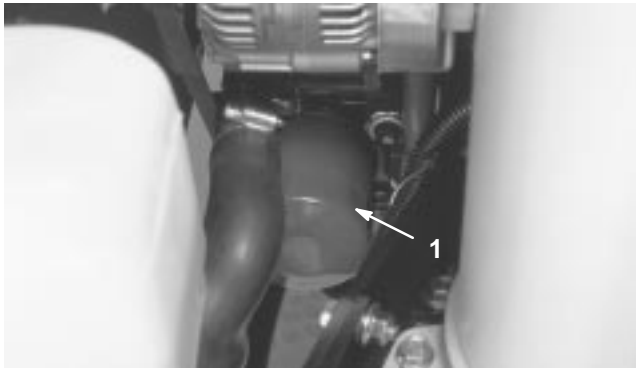

Figure 45
2. Remove the oil filter (Fig. 45). Apply a light coat of clean oil to the new filter seal before screwing it on. **Do not overtighten.**